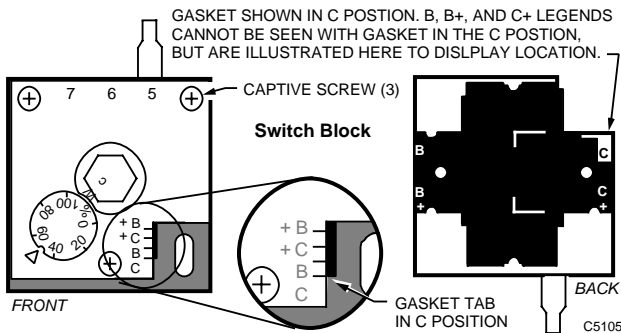

Fig. 6. Integral action cut-off and gage function gasket position.
1. Check the gasket tab position (Fig. 6, front view).
4. Rotate and/or flip the gasket until the gasket position matches the functions desired (Fig. 6, back view).